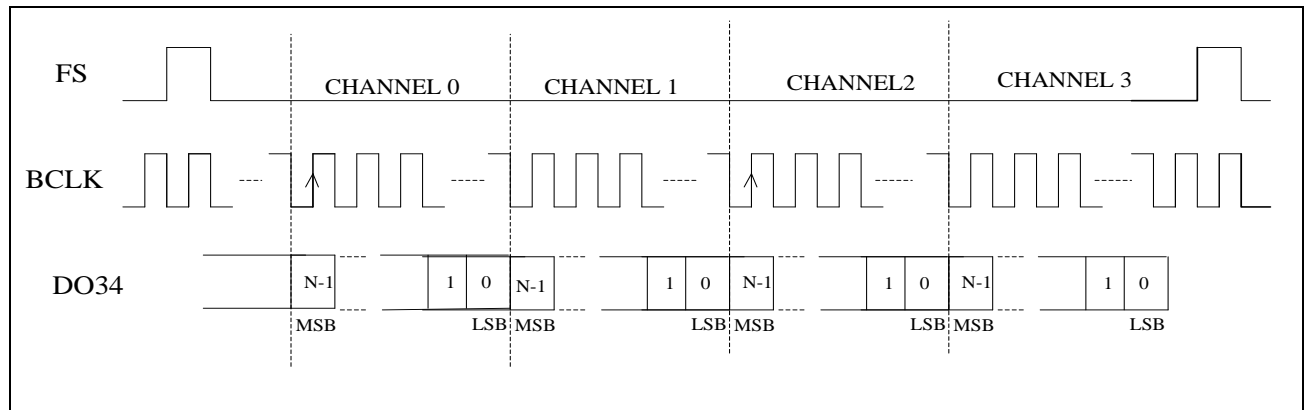

Figure 45 TDM PCM Offset Audio Format
Normally, DAC data are clocked immediately after the Frame Sync (FS). However, in PCM Offset Mode, audio data is delayed by a delay-count specified in the device control registers. The Channel 0 MSB is clocked on the BCLK rising edge defined by the delay count set in the **LEFT_TIME_SLOT.TSLOT_LREG0X1E[9:0]** register. The subsequent channel's MSB is clocked on the next BCLK after the previous channel's LSB. This can be seen in **Figure 45**.